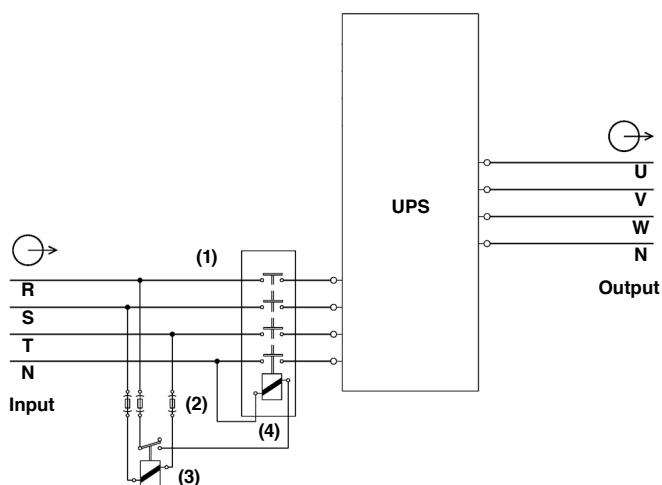

Fig. 15. Backfeed protection connection in installations with common bypass line (X-TRA-CB) and power  $\leq 300\ kVA$ .
- X-TRA-CB** equipments (common bypass line) and power  $\leq 300$  kVA, in accordance with safety standard EN-IEC 62040-1, installation has to be provided with a «Backfeed protection» system, as for example a contactor, which will prevent the appearance of voltage or dangerous energy in the input mains during a mains fault (see figure 15). For powers  $>300$ kVA the UPS has the "Backfeed protection" as standard.